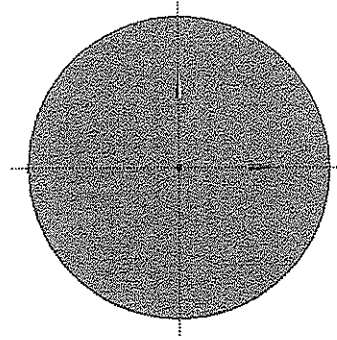

Figure 5-74 Model after being oriented
2. Choose the **Generate** tool in the **Features** toolbar; the new plane is created and displayed on the selected face, as shown in Figure 5-74.
3. Choose the **Look At** tool in the **Graphics** toolbar to orient the model normal to the viewing direction, refer to Figure 5-74.